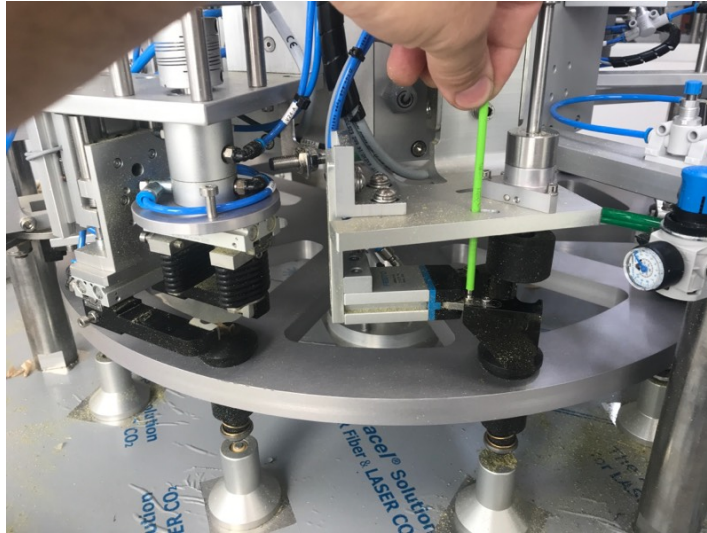

Figure 4.24: Bolts to remove to free the grippers
- A. Unscrew the two bolts indicated on figure 4.24.